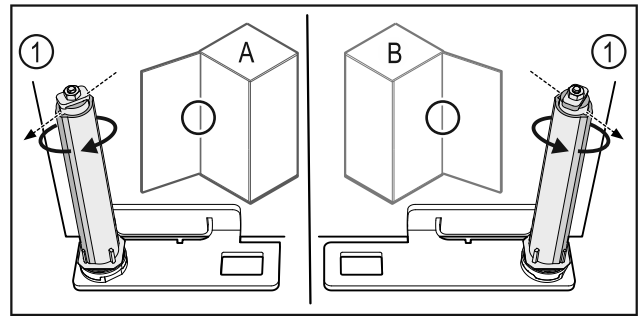

Fig. 60 Left-hinged (A) / Right-hinged (B)
- Turn the closing system against the resistance until the bar of the closing system Fig. 60 (1) points outwards.